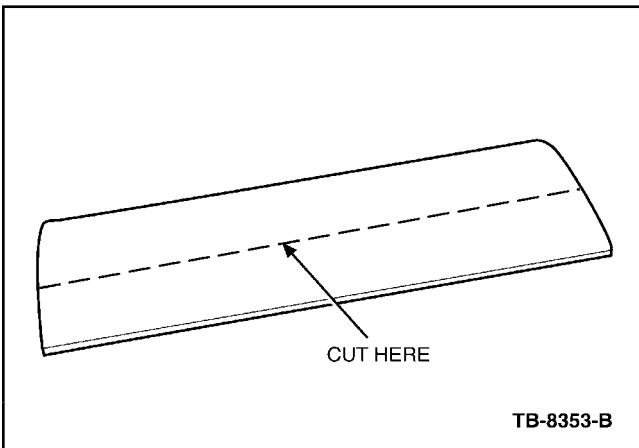

Figure 5 - Article 05-23-7
8. Obtain two (2) PVC soft foam adhesive stripes (164-R4901) from the Rotunda Squeak And Rattle Kit (164-R4900).
9. Cut both of the PVC soft foam adhesive stripes in half, lengthwise, so you have four (4) pieces 7/8" x 6" (22 mm x 152 mm) (Figure 5).